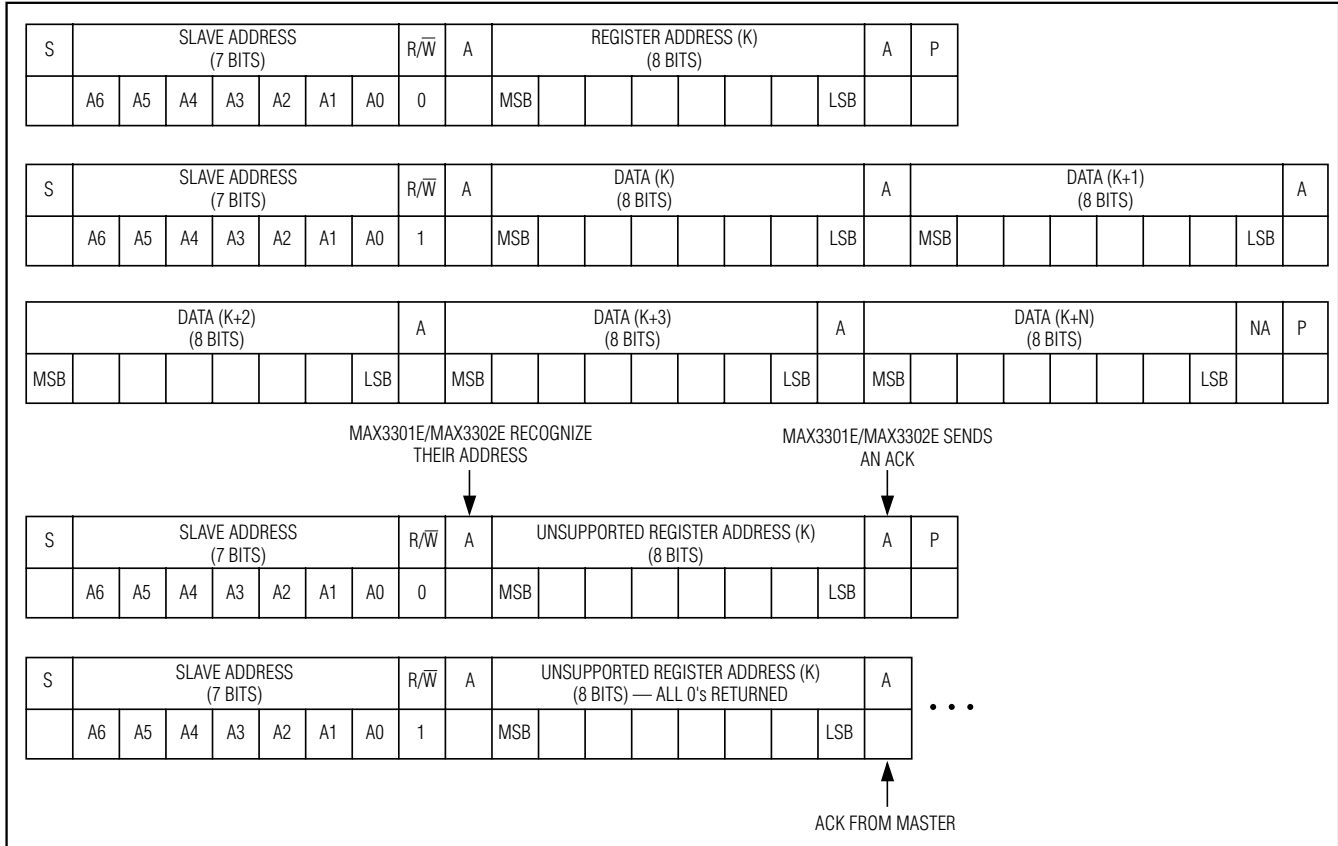

Figure 21. Burst-Mode Read Byte Format
The MAX3301E/MAX3302E allow a master device to read data from sequential registers with the burst-mode read byte protocol (see Figure 21). The master device first sends the slave address, followed by a 0. The MAX3301E/MAX3302E then sends an acknowledge bit. Next, the master sends the register address to the MAX3301E/MAX3302E, which then generates another acknowledge bit. The master then sends a stop (P) condition to the MAX3301E/MAX3302E. Next, the master sends a start condition, followed by the MAX3301E/MAX3302E's slave address, and then a 1 to indicate a read command. The MAX3301E/MAX3302E then sends data to the master device, one byte at a time. The master sends an acknowledge bit to the MAX3301E/MAX3302E after each data byte, and the register address of the MAX3301E/MAX3302E increments after each byte. This continues until the master sends a stop (P) condition. If